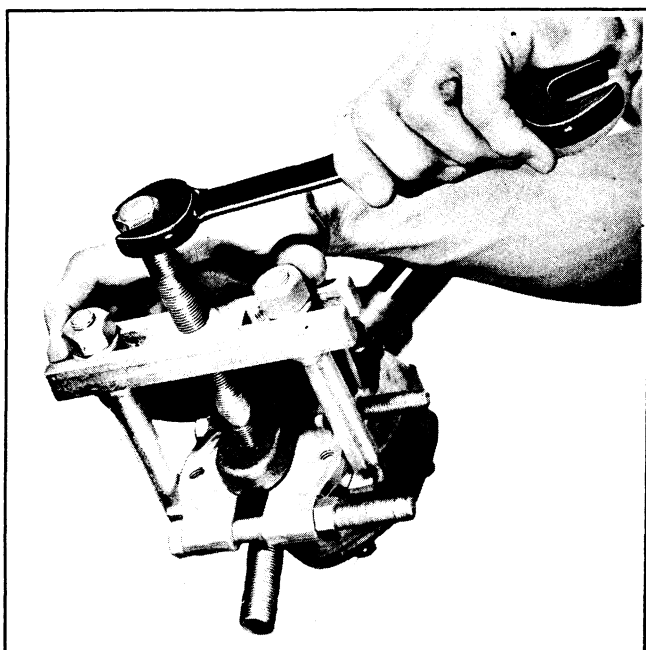

Figure 2-45. Pulling Ball Joint
On 1969 model, remove 4 bolts holding steering unit bracket to frame and disconnect tie rod from fork. Ball joints on tie rod (10) ends are a taper fit in steering arm and fork bracket sockets. Remove cotter pins and nuts (11) and use claw puller Part No. 97292-61 to pull joint from socket. See Figure 2-45. Remove entire steering unit from car.
Remove ball joint nuts and cotter pins (2). Remove short tie rod assembly (3) from right axle support arm (4) as shown in Figure 2-45, using claw puller, Part No. 97292-61, and wedge attachment 95637-46. See "Disassembling and Assembling Steering Arm and Tie Rod Assembly" for additional information. In a similar manner remove long tie rod assembly (5) from right and left axle support arms (4 and 6).